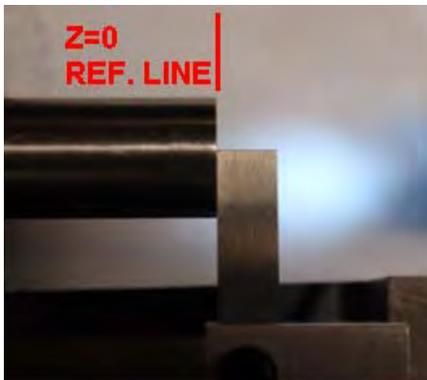
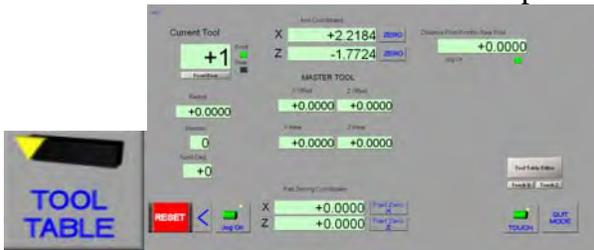

FIGURE 4.1.3
FIGURE 4.1.4
The master tool is aligned such that it is flush with the face of the reference, thus the tool holder and post are now perpendicular to the X axis and the tool edge is at Z=0 reference in Figure 4.1.3. The tool is then aligned to the OD of the reference, thus the master tool is at a known reference location X =0 as shown in Figure 4.1.4.
1. The stock is placed in the chuck. The master tool is aligned to the stock such that the edge is placed at the face and center of the stock. (same as previously shown in Figure 4.1.3 and repeated here)